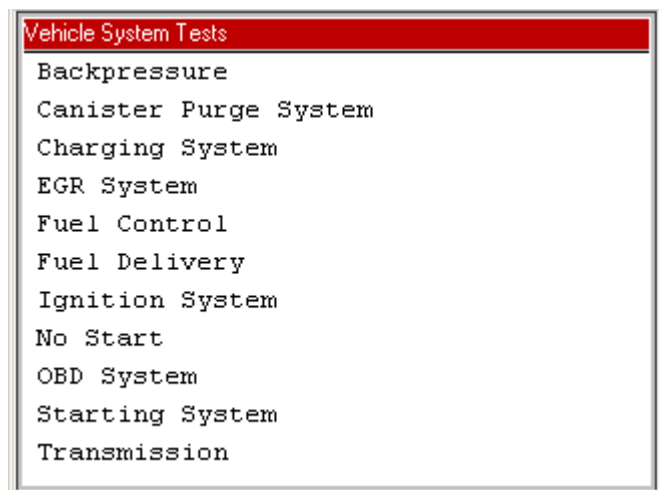

Figure 11.2: Vehicle System Tests Menu Screen
- 2 From the main menu screen, select **Vehicle System Tests**. This displays a list of vehicle systems on the Vehicle System Tests menu screen (Figure 11.2).